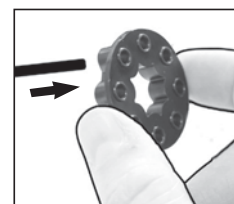

Fig. 12
- Using a .177 caliber ramrod, gently push each BB out of the magazine (see Fig. 12).